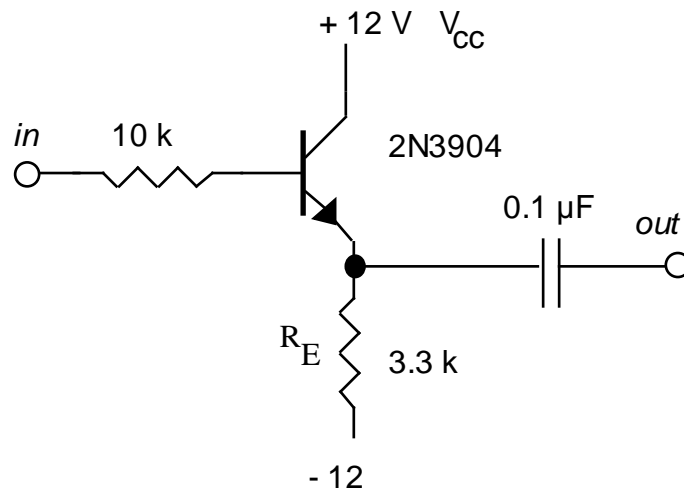

Figure 4-6
* Connect the emitter return back to -12 V. Add a blocking capacitor to the output as shown in Figure 4-6.